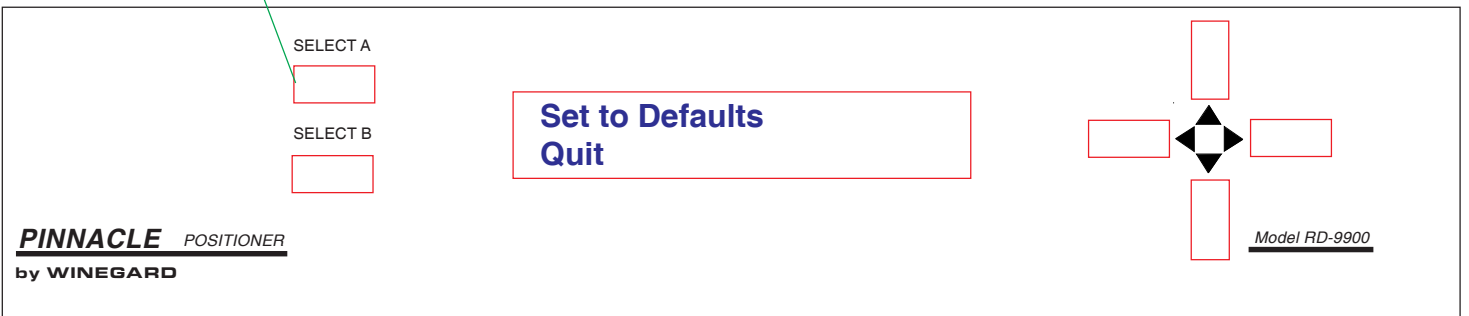

Figure 6
7. Press **[SELECT A]** **Set to Defaults**. See Figure 6.